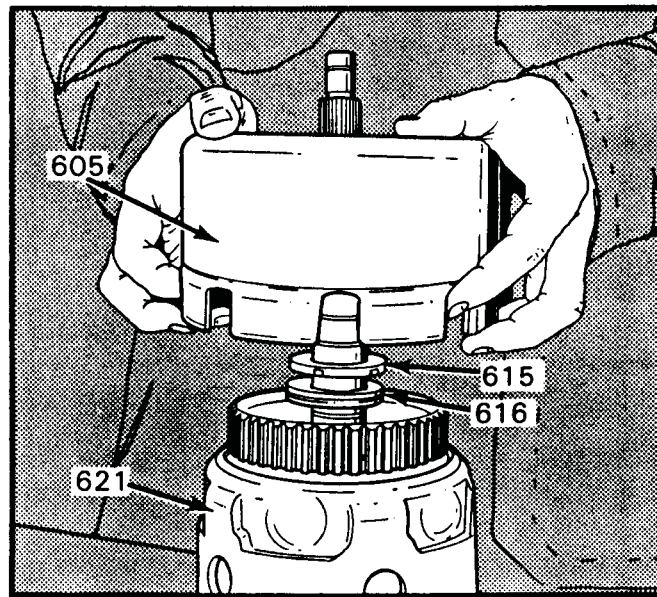

Figure 131
3. Install the reverse input housing onto the input clutch housing, as shown in Figure 131.